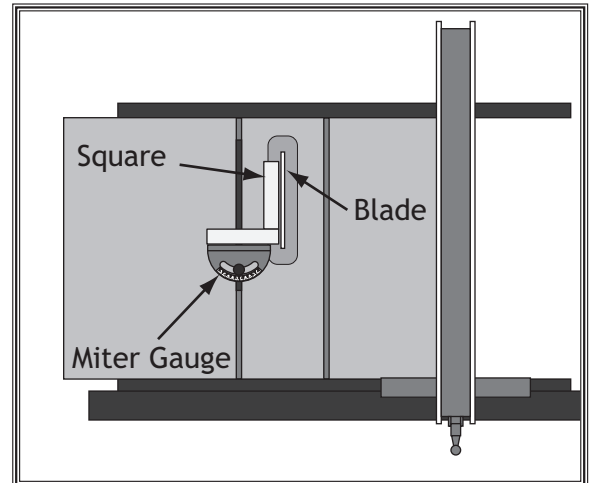

Figure 111. Checking 90° stop on miter gauge.
4. Place the 90° square evenly against the face of the miter gauge and the blade, as shown in **Figure 111**.